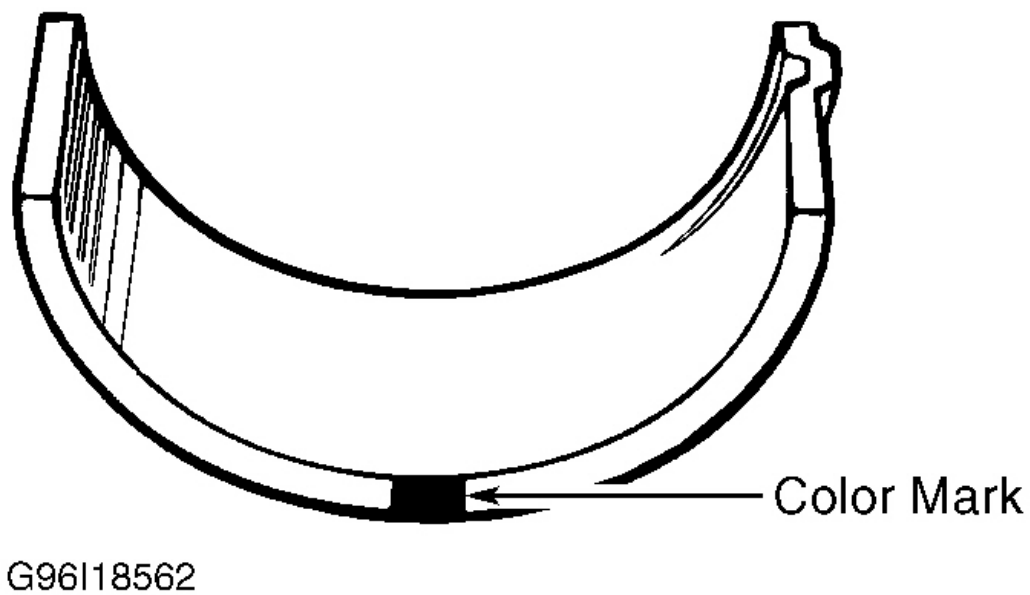
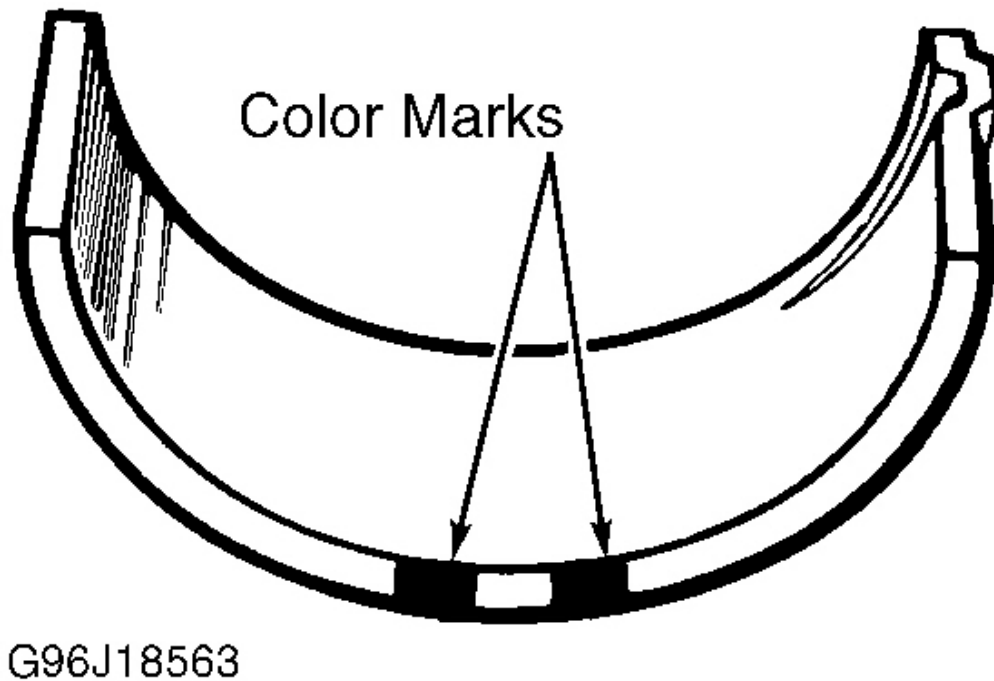

Fig. 14: Identifying Main Bearing Color Codes (Standard Bearing)
Fig. 15: Identifying Main Bearing Color Codes (Undersize Bearing)
4. Standard main bearings are color-coded. See **Fig. 14** and **Fig. 15**. Upper half of bearing has an oil groove. An arrow mark and number are embossed on each main bearing cap.
9. The letters stamped on cylinder block mating surface, reading left to right, indicate cap bore diameters of bearing caps No. 1, 2, 3, 4 and 5, respectively. Five standard main bearing sizes are available. Bearing thickness is determined by color code. See **Fig. 14** and **Fig. 15**. See **COLOR CODE FOR STANDARD BEARINGS** table.
1. Bearings are available in .010" (.25 mm) undersize. Undersize bearing thickness is determined by 2 color marks. See **Fig. 14** and **Fig. 15**. See **COLOR CODE FOR UNDERSIZE BEARINGS** table.